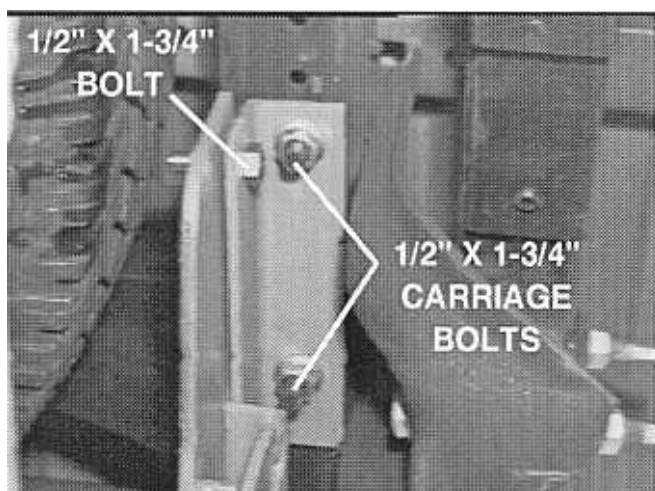

Figure 10
3. Install four 1/2" x 1-3/4" grade 8 carriage bolts through backing plates with narrow offset towards radius of frame rail from top down. Retain with 1/2" locknuts. See Figure 10.